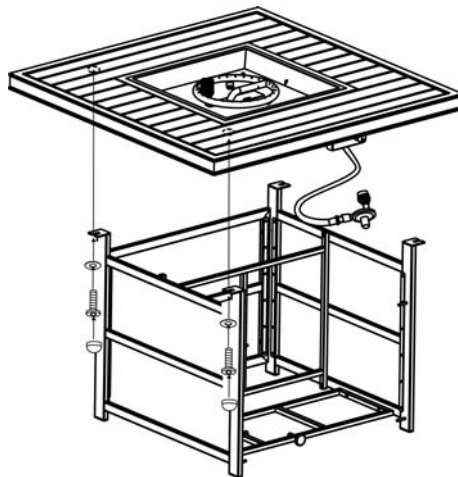

Figure 5
4. With the help of another person, carefully place the table top onto the firepit base. After making any necessary adjustments to the alignment of the table top and the assembled base, use four 1/4"x15 mm bolts and Ø20xØ6.5x2.0 mm washers as shown in Figure 5. Guide the bolts through the holes in the base brackets, into the pre drilled holes in the table top. **Do not tighten completely.**